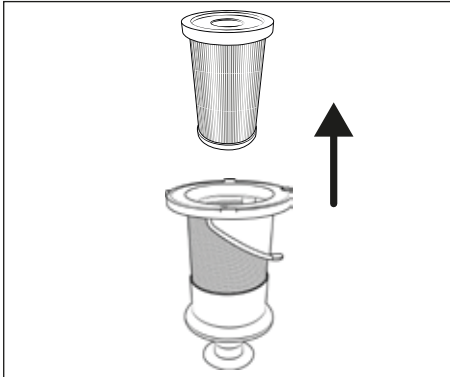

Fig. 18
- 3) Remove the HEPA filter **5** from the stainless steel filter **6** by reaching into the opening of the HEPA filter **5** and pulling it out of the stainless steel filter **6** (see Fig. 18).